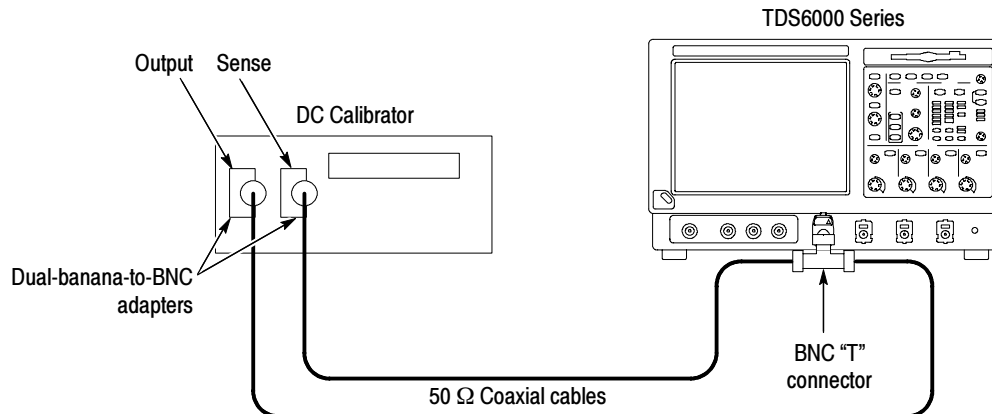

Figure 4-8: Initial test hookup
- Connect the output of a DC calibration generator through a dual-banana connector followed by a 50 Ω precision coaxial cable to one side of a BNC T connector. See Figure 4-8.
- Connect the Sense output of the generator through a second dual-banana connector followed by a 50 Ω precision coaxial cable to the other side of the BNC T connector. Now connect the BNC T connector to **CH 1** through an adapter. See Figure 4-8.